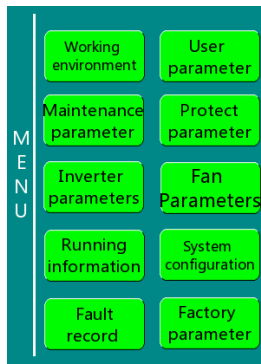

Figure 4-4 Menu interface
4. Click **Menu** on the interface. The interface shown in Figure 4-4 is displayed.